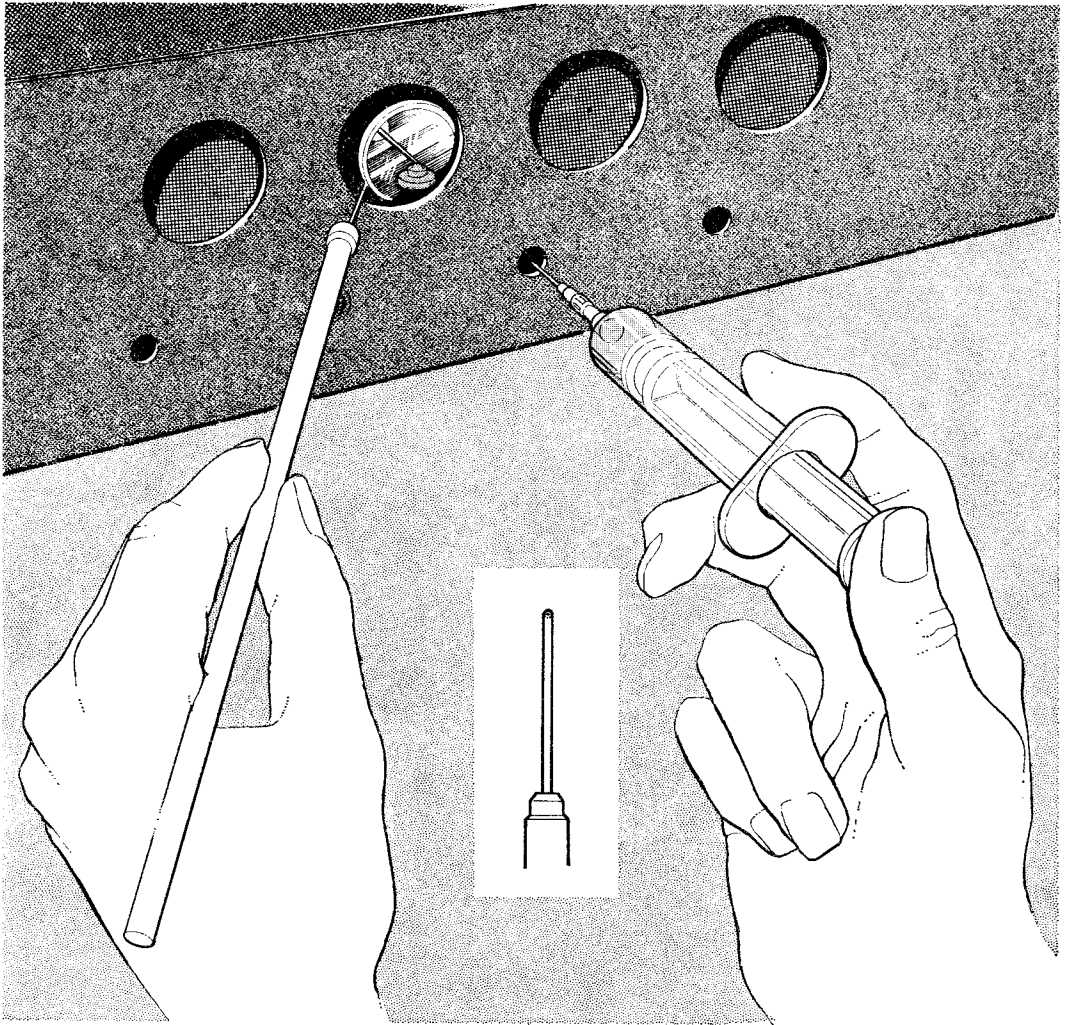

Fig. 36 Using a hypodermic syringe for lubricants
44. **Hypodermic syringes.** These are used to apply measured quantities of oil to confined spaces. The needle used is normally ground flat to minimize the risk of personal injury (Fig. 36). A syringe should be used with care to prevent breaking the needle, and it should be fitted with a protective cap when not in use. An inspection mirror is often used when the point of application is not easily visible.